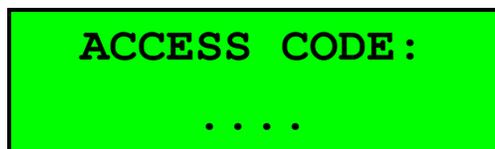

Figure 20 — Second Level Access Code Screen
- (1) Press <F1> and the "access mode" screen appears (see Figure 20).
- (1) Press <F1> and the second level access code screen will appear (see Figure 20).